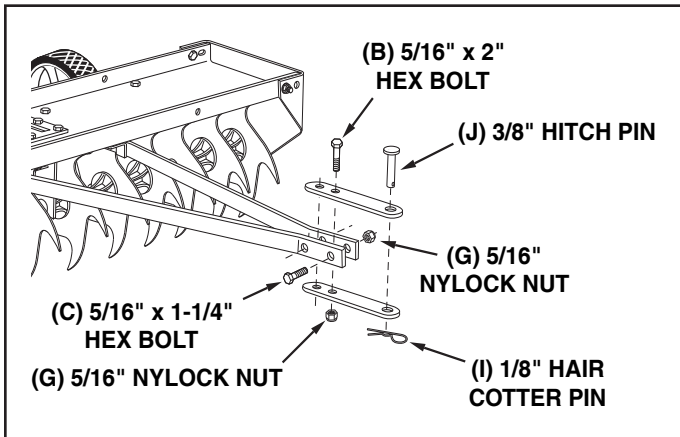

FIGURE 13
20. Turn the aerator right side up and assemble the front ends of the hitch arms together using two 5/16" x 1-1/4" hex bolts (C) and 5/16" nylock nuts (G). **Do not tighten yet.** See figure 13.
21. Assemble the two hitch brackets to the top and bottom of the hitch arms using two 5/16" x 2" hex bolts (B) and 5/16" nylock nuts (G). **Do not tighten yet.** See figure 13.
22. Assemble the 3/8" hitch pin (J) through the hitch brackets and secure it with a 1/8" hair cotter pin (I). See figure 13.